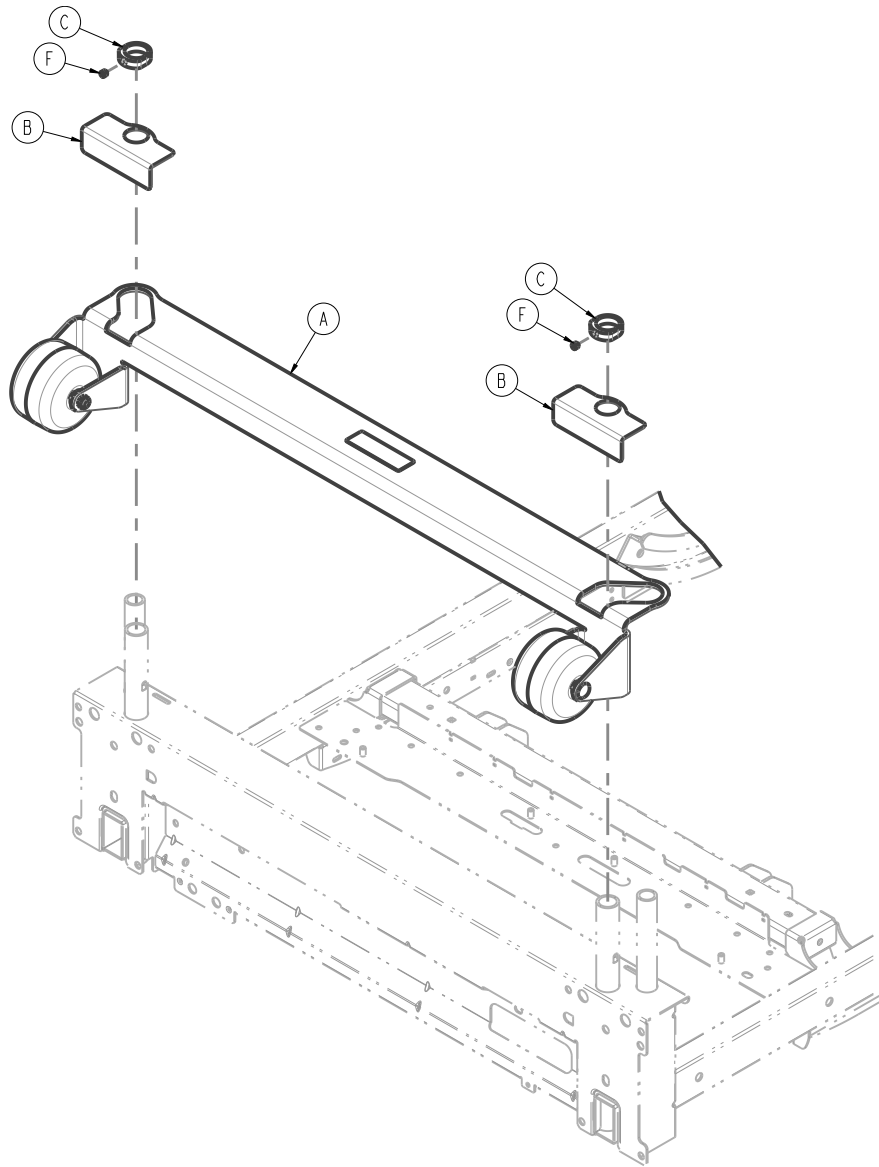

Figure 80 – Attaching the roller bumper
7. At the head end of the product, attach the roller bumper (A) to the bed IV post (Figure 80).
8. Slide the retaining bracket (B) over each side of the roller bumper (Figure 80).
9. Slide the lock collar (C) over each side of the roller bumper (Figure 80).
11. While you press down on the lock collar (C), use the 1/8" hex wrench to tighten the set screw (F) (Figure 80). If your product is equipped with the IV pole option, use the base of the IV pole to push down on the lock collar (C).